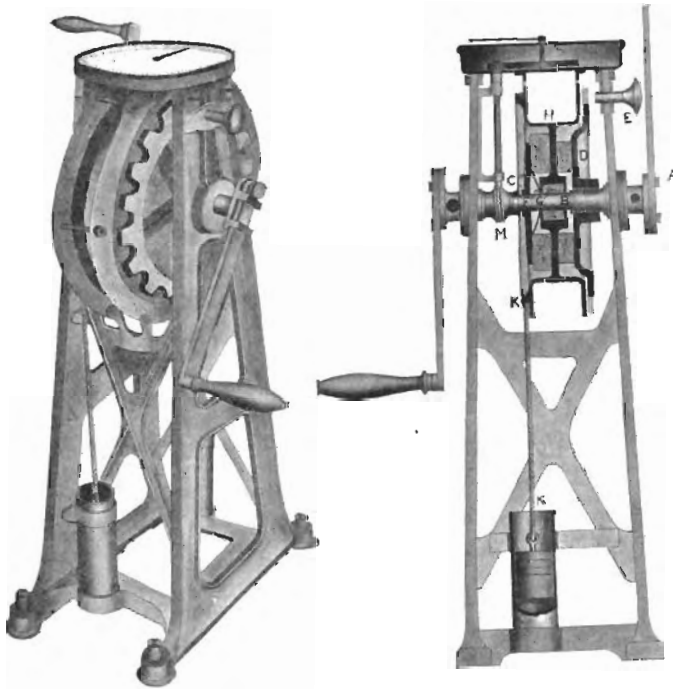

Fig. 355—Lord Kelvin's 1906 Sounding Machine.
This machine, of which a general view and section are shown in Fig. 355, has been designed with the further object of enabling the depth of water at each sounding to be ascertained from the dial showing the amount of wire line which is run out at each cast, taken in conjunction with the speed of the ship.
*Description of Lord Kelvin's 1906 Sounding Machine. (Fig. 355.)*